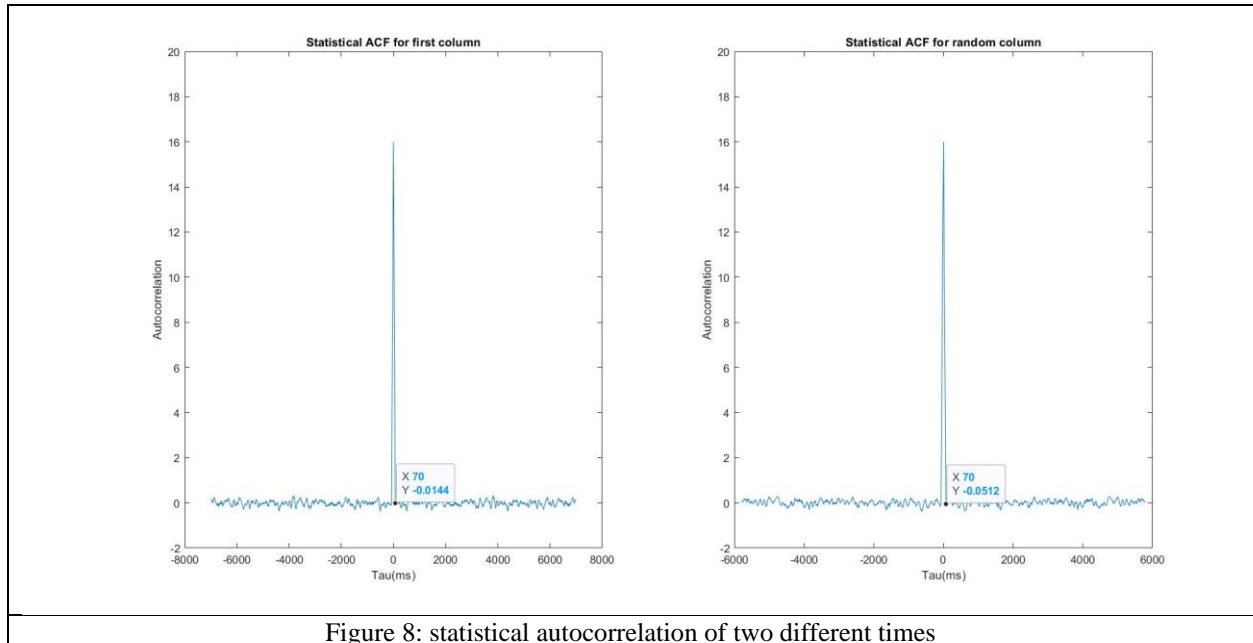

Figure 8: statistical autocorrelation of two different times
4. From figure 8, we compared the statistical autocorrelation at only two different times just to simplify instead of comparing with all times, so we can find that the autocorrelation is approximately the same in the two graphs.
- From (1) and (2), the conditions of the WSS process are verified, so we can say that a **polar non-return to zero process is a WSS process**.